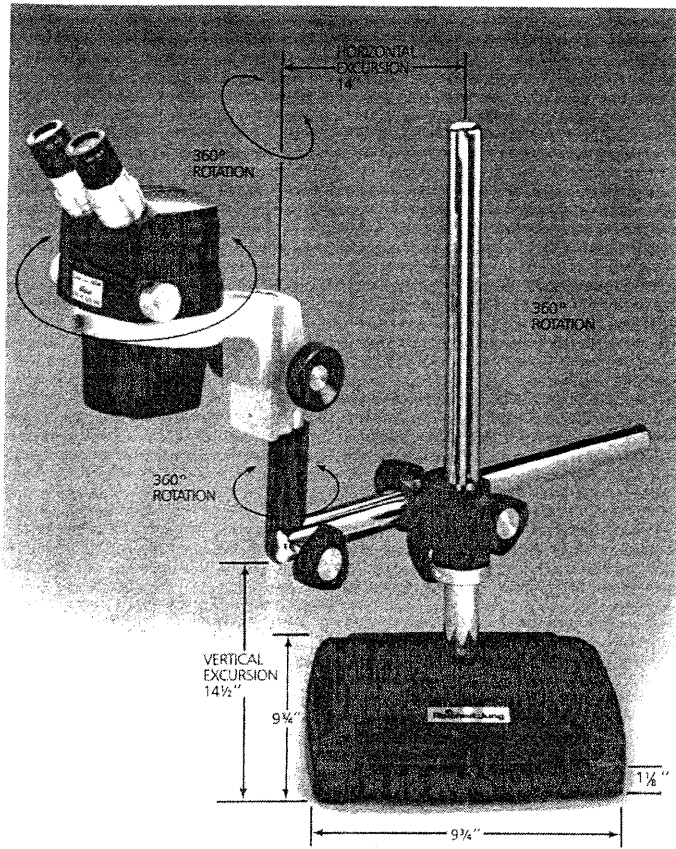

Figure 5.
- 6.) Loosen Lock Knob and slide Horizontal Arm into either of the two openings in Holder. The Arm is positioned as in Figure 5.
- 8.) Install 562B-1 Yoke to the stand as in Figure 5.